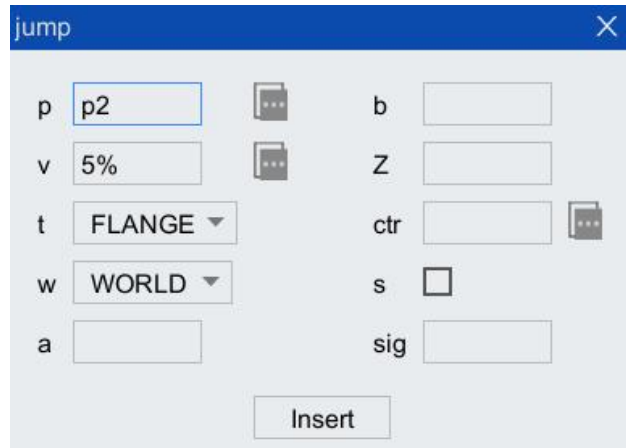

Figure 5-22"Jump"Instruction configuration interface
- Step1. Click "Insert instruction > Motion instruction > jump" option in the toolbar of "Program editor", and the "jump" instruction configuration interface as shown in Figure 5-22 will pop up.
Step9. Click the <insert instruction> button in Figure 5-22, and the "prompt" box of "Create Variable**" pops up, click the <OK> button, the instruction is inserted successfully.